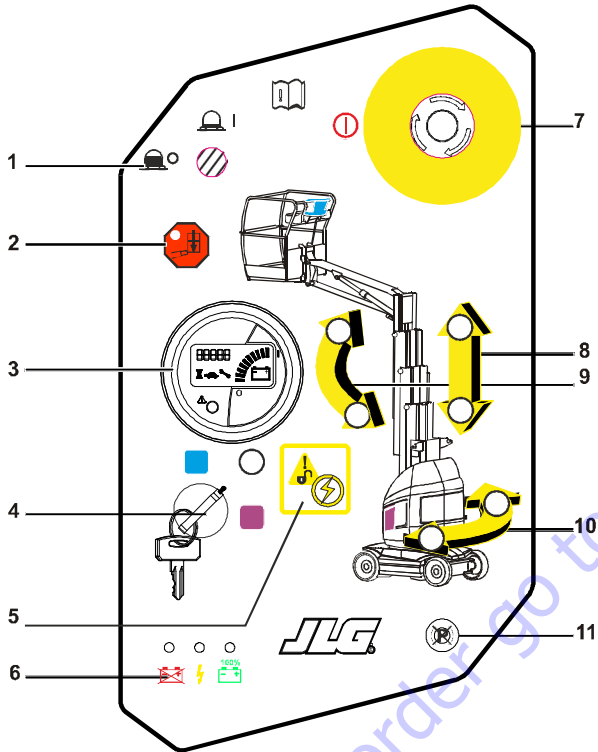

Figure 3-5. Ground Control Station
1. Push and hold the jib lift membrane switch at the ground control station (Refer to Section 3-7, Figure 3-5).